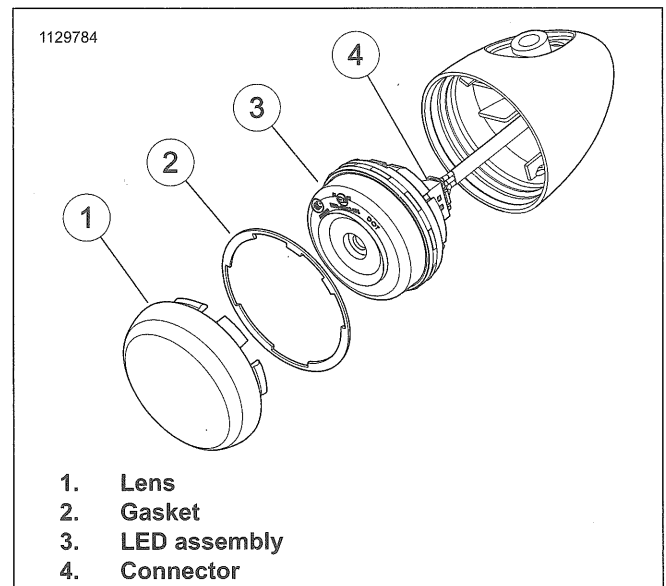

Figure 7-75. LED Turn Signal Lamp
1. See Figure 7-75. Remove lens (1).
2. Remove LED assembly (3).
3. Disconnect connector (4).